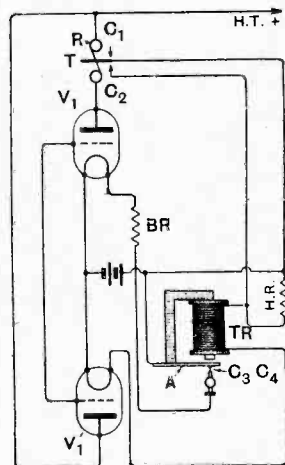

Fig. 5.—Circuit for introducing new valve and extinguishing the defective valve when emission is low or the filament fails.
The next phase of the problem is to add a device which will automatically extinguish  $V_1$  in Fig. 2 when  $V_1^1$  is brought into action. This is exhibited in Fig. 5. The filament circuit of  $V_1$  contains a ballast resistance, BR, equal in value to that of the telephone relay in the filament circuit of  $V_1^1$ . There is also a high resistance, HR, of from 2,000 to 3,000 ohms in series with TR to prevent sparking at the relay contacts  $C_2T$ . When  $V_1$  is lighted, the filament battery sends a very small current through HR and the relay winding. The armature A is in the release position, so that contacts  $C_3C_4$  are touching. Now there are two defects to be defeated: (1) broken filament, (2) reduced emission. Let the filament of  $V_1$  break, then the current through relay R
The arrangement of Fig. 5 is evidently the combination of Figs. 1 and 2, excepting that the positions of BR and TR are reversed and HR has been added. If the energy in the filament circuit were not so limited, HR could be replaced by an anti-sparking resistance across TR. This, however, in our case, would mean a smaller current through TR, and the relay would not function with precision. Moreover, if a resistance were used across TR, the battery voltage would have to be augmented, but by hypothesis this is inadmissible.
There is a third salient manner in which a valve may fail. This occurs when the filament touches the grid. The introduction of a device to cope with this defect is difficult. The valve and its auxiliary are both put out of action when the grid touches the filament, but so long as the filament remains, so also does the emission. Thus the arrangement of Fig. 5 would be abortive in this case. But if the filament should burn out, there would or would not be a happy ending. Provided the filament break was such that